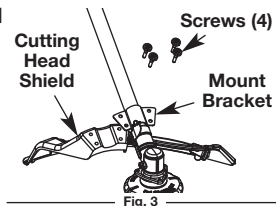

Fig. 3
1. Place the cutting head shield onto the mount bracket. Align the holes in the cutting head shield with the holes in the mount bracket. (Fig. 3)
1. Remove the cutting head shield from the shaft housing (Fig. 3).